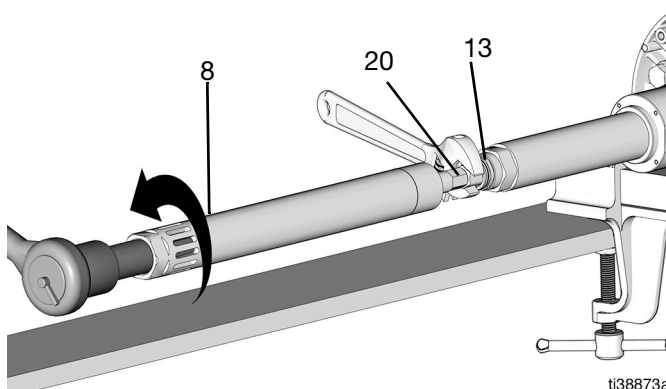

FIG. 9
11. Using a 3/4 in. socket, loosen and unthread the shovel rod (20), leaving the shovel rod inside of the inlet pump cylinder (8) (FIG. 9) and set aside.